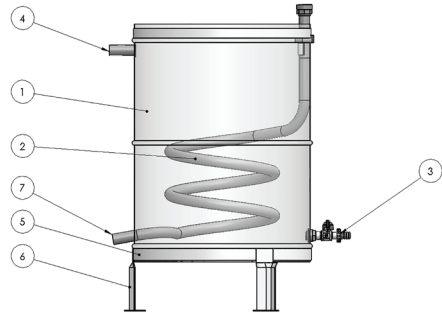

Figure 5 - Spiral cooler
The cooler (Fig. 5) or condenser is a vessel made of galvanized sheet metal and filled with cool water containing a copper condenser coil (2). The coil lower part exits the vessel (7) and alcohol distillate drips through it. The distillate's temperature is regulated by adding cold water (3) to the cooler. There is an overflow pipe (4) of the cooling vessel at the upper edge through which hot water will flow.